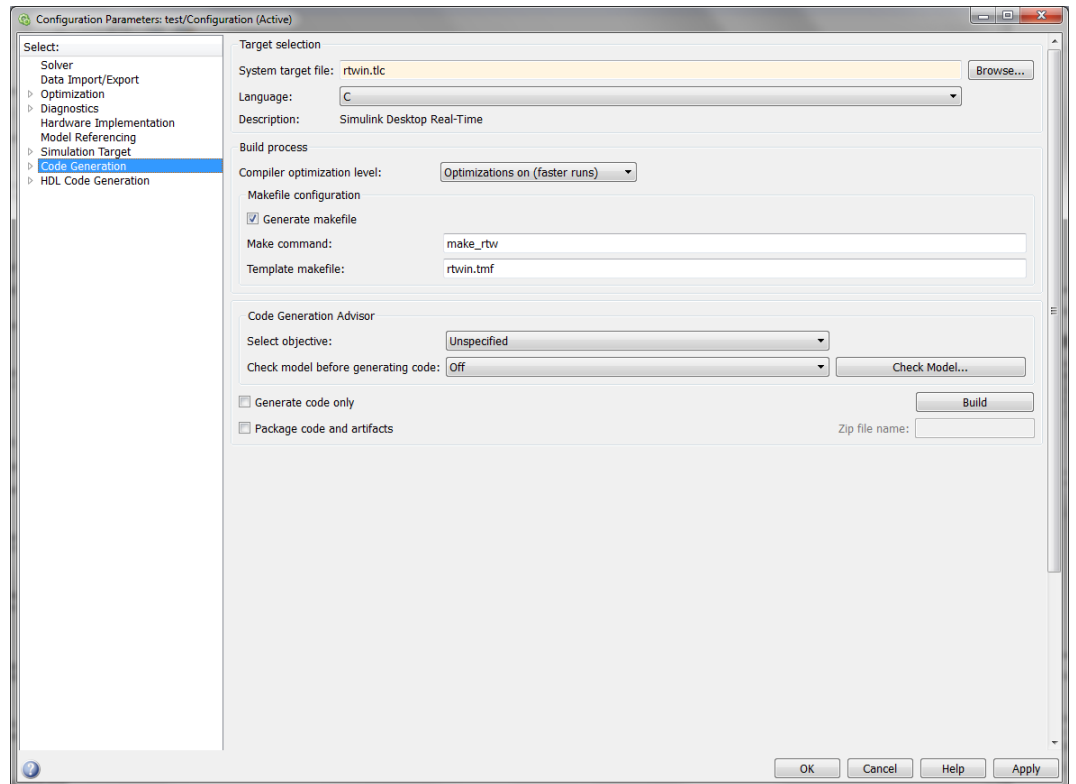
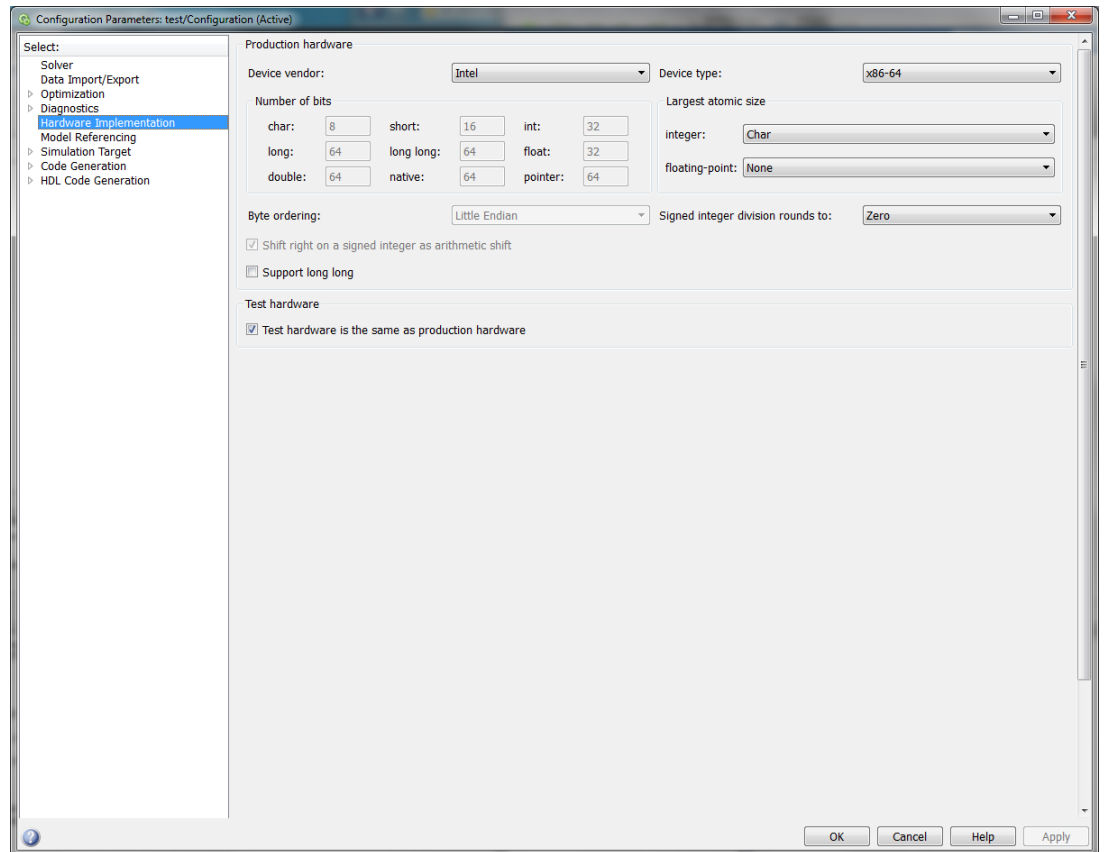

Figure 12: Configuration settings for Code Generation.
Figure 13: Configuration settings for Hardware Implementation.
Refer to Figure 12 for the appropriate settings in this section.
Refer to Figure 13 for the appropriate settings in this section.
- (a) set Code Generation parameters for creating C code and building a real-time application by Simulink Coder (see Figure 12 and Figure 13)